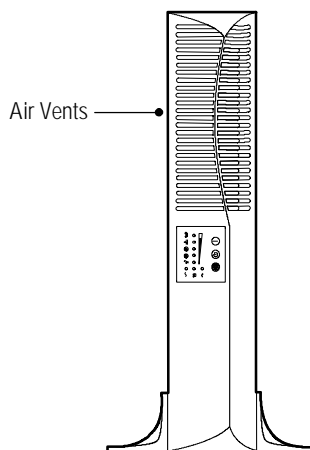

Figure 7. UPS Cabinet with Stands
3. Carefully position the unit upright on the UPS stands (see Figure 7).